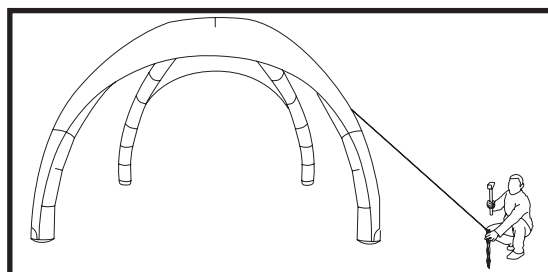

Fig. 7
10. Clip the second end of the rope to the torsion anchor and hammer it into the ground. Stretch the rope. Repeat for each rope (Fig. 7). On a hardened ground, secure the tent with ballast bags.